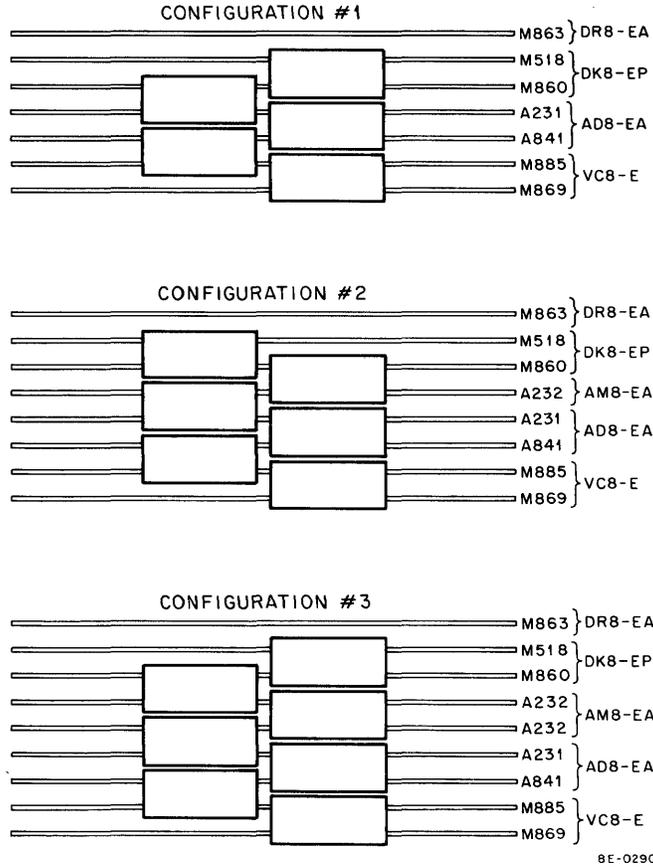

Figure 2-6 Edge Connector Installation (top view)
- c. Install edge connectors as shown in Figure 2-6.
- b. Install edge connectors as shown in Figure 2-6.
- d. Install edge connectors as shown in Figure 2-6.
| 18 | Installation of DK8-EP or DK8-ES: <ol style="list-style-type: none"> a. Install M860 and M518 in the OMNIBUS. Refer to Table 2-21 for module positions. b. Install edge connectors as shown in Figure 2-6 for DK8-ES or DK8-EP. c. If this is a DK8-ES, install DK8-EF front panel and connect front panel cable to M518 module. |